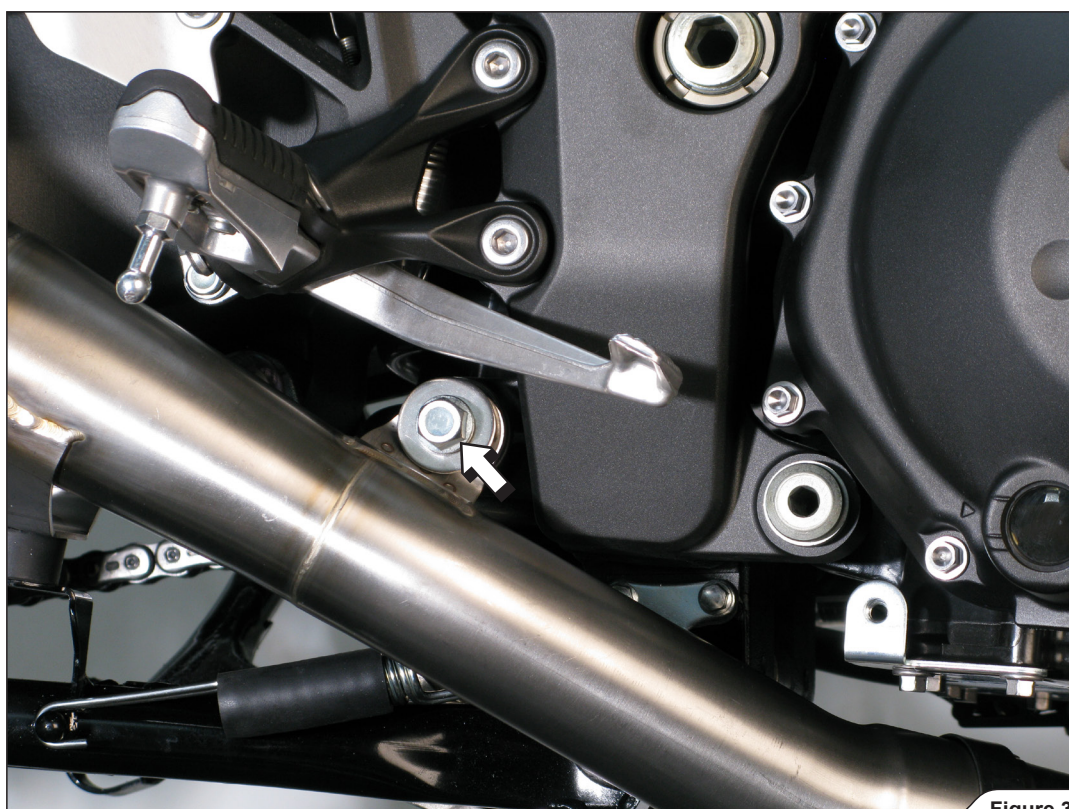

Figure 30
12. Hand tighten the right link pipe's bracket, using stock bolt, nut and washer (Figure 30).